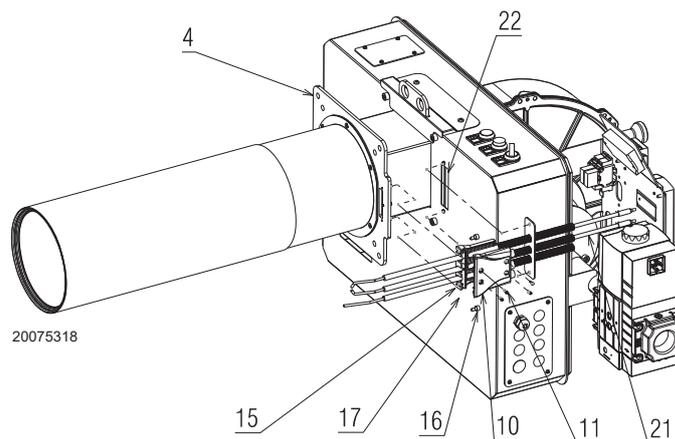
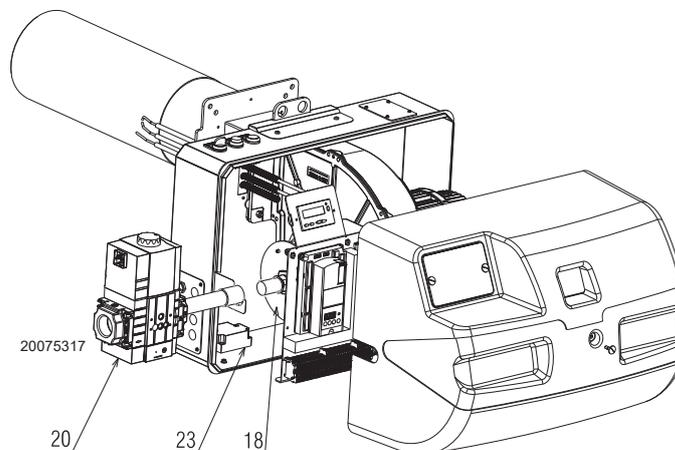

Fig. 18
Fig. 19
For the installation of the electrodes proceed as follows (Fig. 18) - (Fig. 19):
- Fix the flange 4)(Fig. 18) to the boiler plate and tighten the nuts 4).